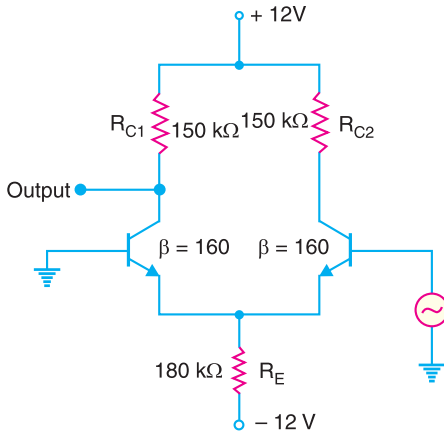

Fig. 25.100
- For the circuit shown in Fig. 25.100, determine (i) common-mode voltage gain (ii) differential-mode voltage gain (iii) CMRR. [(i) 0.42 (ii) 90.6 (iii) 216]